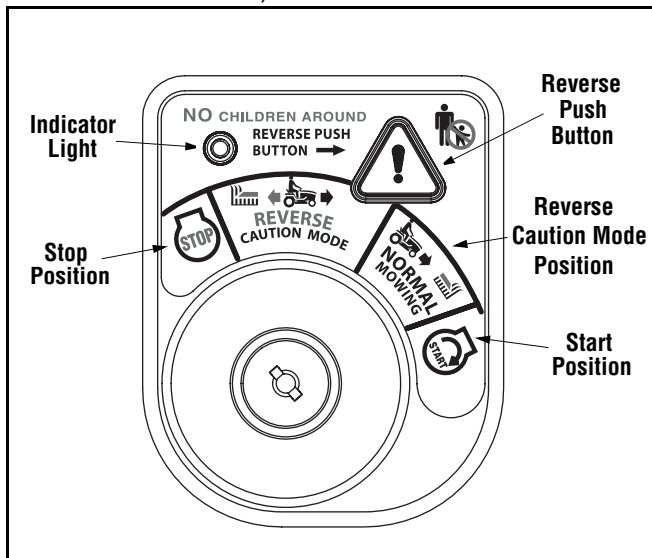

Figure 11
2. Turn the key from the **NORMAL MOWING** (Green) position to the **REVERSE CAUTION MODE** (Yellow) position of the key switch module. See Figure 11.
- Depress the **REVERSE PUSH BUTTON** (Orange, Triangular Button) at the top, right corner of the key switch module. The red indicator light at the top, left corner of the key switch module will be **ON** while activated. See Figure 11.